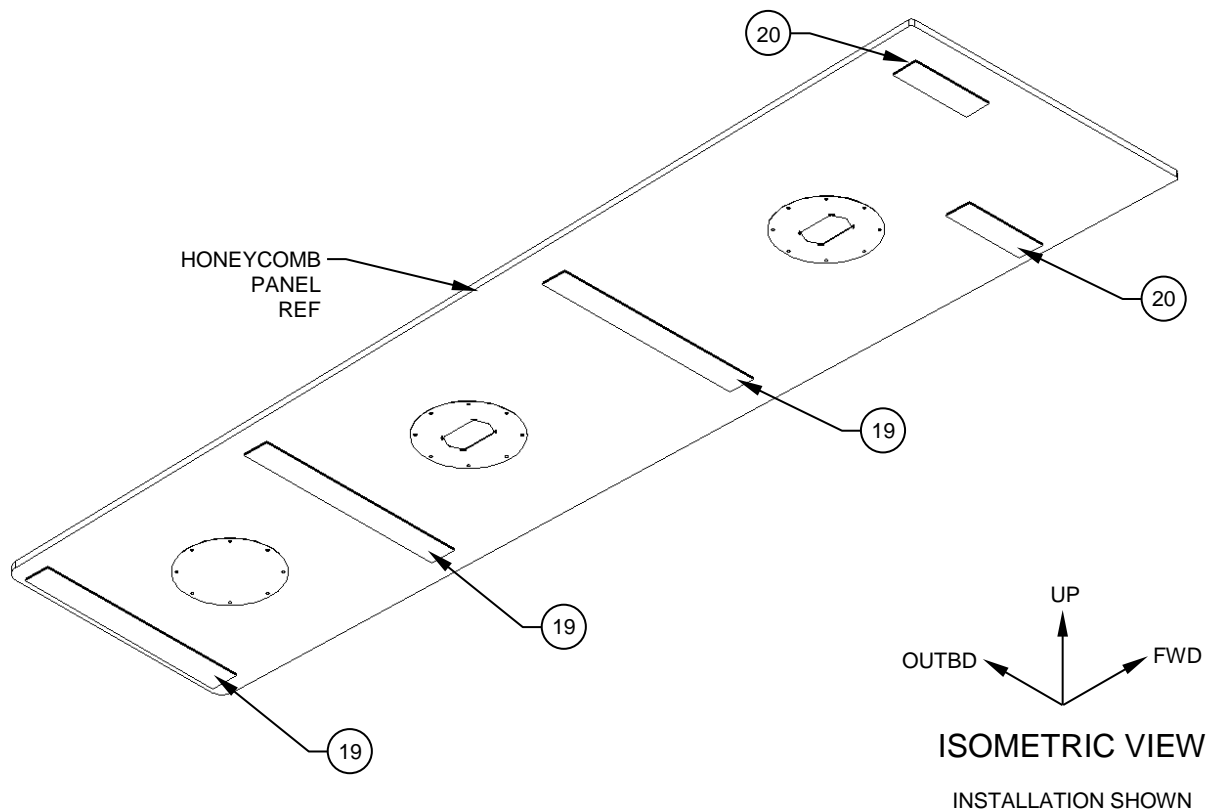

**Figure 5**
8. With the Roof Panel, Detail (Assy 2) lined up use the pre-cut .25 holes and a felt pen to mark out the locations for the Velcro®, Details (Items 19 & 20), and remove the panel (Item 2). Reference Figure 5.